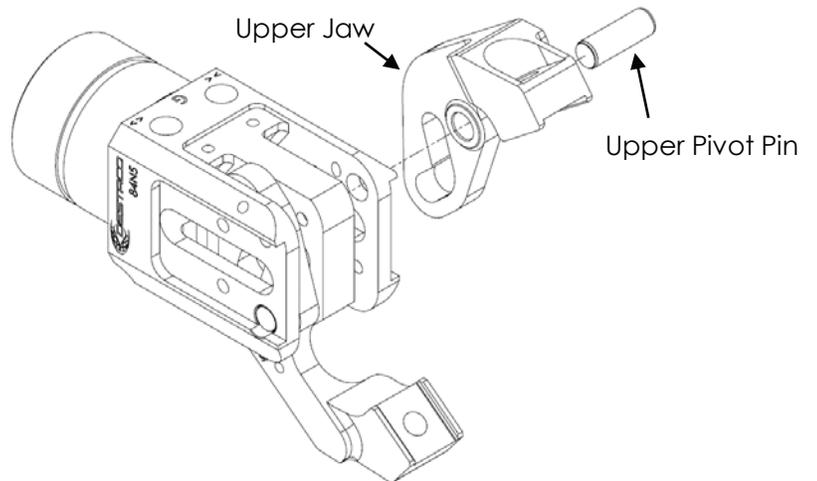

Fig.10
5. Remove the upper pivot pin, in contact with the gripper body and jaw using a rod having diameter $\varnothing 4\text{mm}$ or smaller. Push the pivot pin with the rod thru the gripper body and remove. Remove the top jaw from the gripper (see Fig.10).